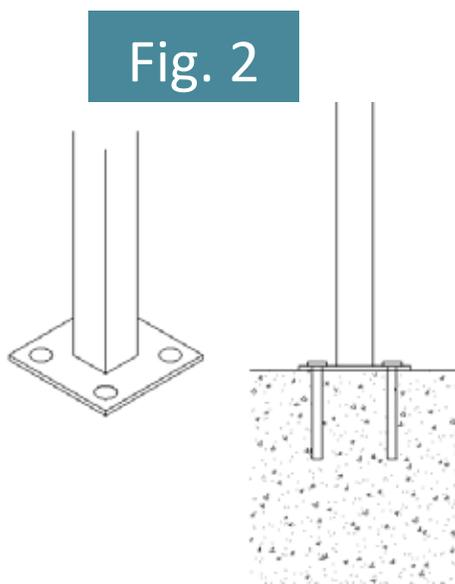
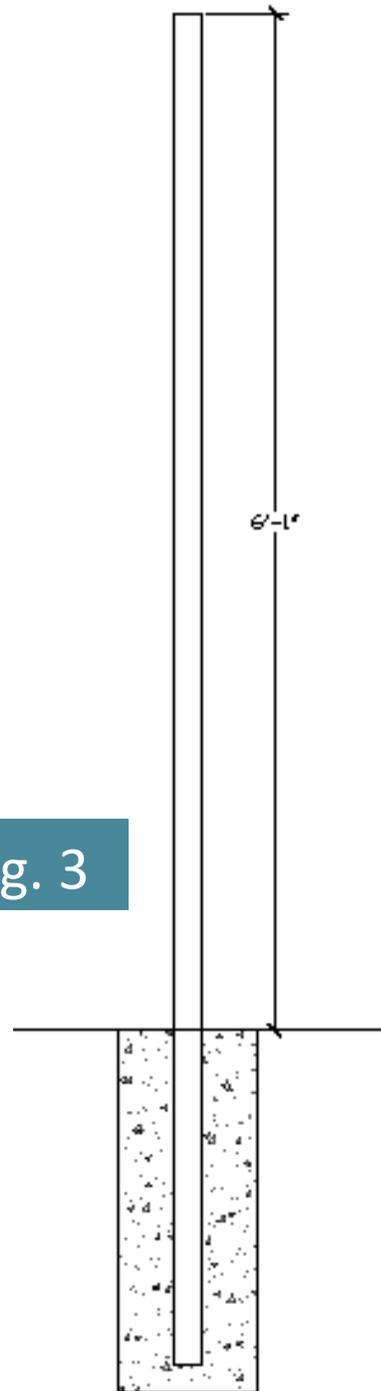

Fig. 2
Fig. 3
1. There are two options for what type of post you would like to use. If placing on existing concrete then you can use the post with a concrete base plate attached to bottom of post (see Fig. 2). Otherwise dig hole and place post to the height of 73" from the ground to the top of the post (see Fig. 3).